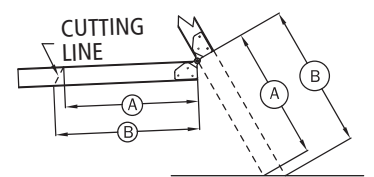

FIGURE 7
B. With a straight edge, measure distances from middle section to floor, for both A & B lengths (figure 7).
D. Transfer these dimensions to the bottom section of the ladder right and left rails and draw a cutting line between the two points. Trim bottom section to length using wood saw (figure 7).